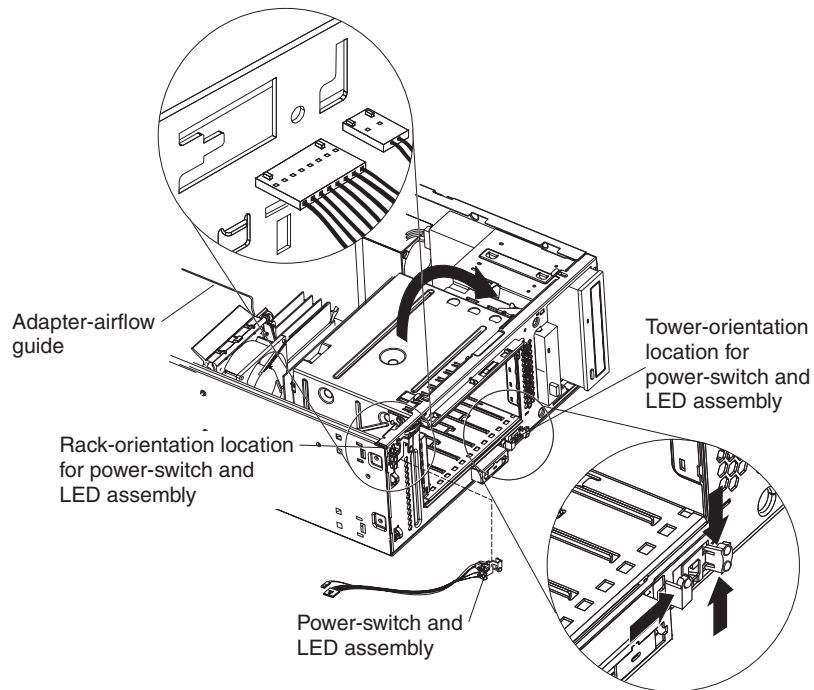

Figure 5. Relocating the power-switch and LED assembly
- h. Carefully push the cables through the openings in the new rack-orientation location. Be sure to push the system error LED connector (attached to the amber LED) through the small opening and push the power-switch connector through the large opening, as shown in Figure 5 on page 12.